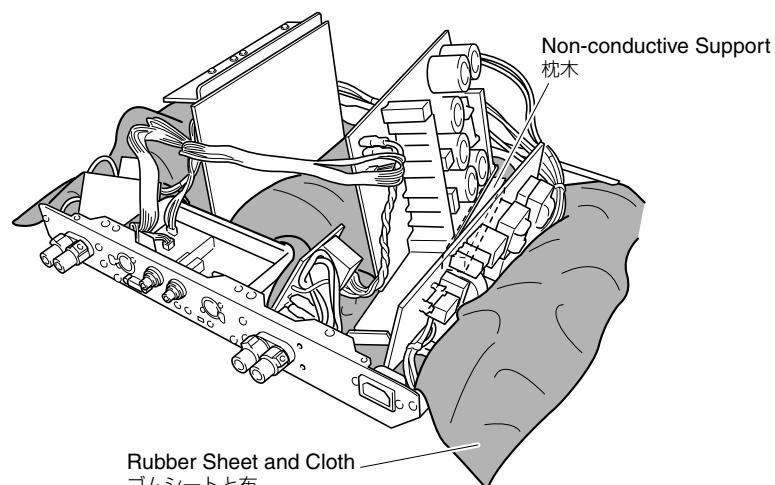

Fig. 6
- Put the Rubber Sheet and a Cloth over the equipment. Then place the P.C.B. upright on the Cloth and check it. (Fig. 6)
- Set the MAIN (L) P.C.B. upright using a non-conductive support, such as wood. (Fig. 6)
- When the FUNCTION (2) P.C.B. and FUNCTION (3) P.C.B. are removed from the chassis, they do not work because their grounding are disconnected. Be sure to connect the ground of FUNCTION (2) P.C.B. and FUNCTION (3) P.C.B. to the chassis respectively with a jumper wire or the like.
- 本機の上にゴムシートと布を敷き、その上にP.C.B.を立ててチェックします。 (Fig. 6)
- MAIN (L) P.C.B.は、枕木を使って立てます。 (Fig. 6)
- FUNCTION (2) P.C.B.およびFUNCTION (3) P.C.B.をシャーシから取り外すとアースが浮いて動作しませんので、FUNCTION (2) P.C.B.およびFUNCTION (3) P.C.B.のアースをリード線等でシャーシに接続してください。